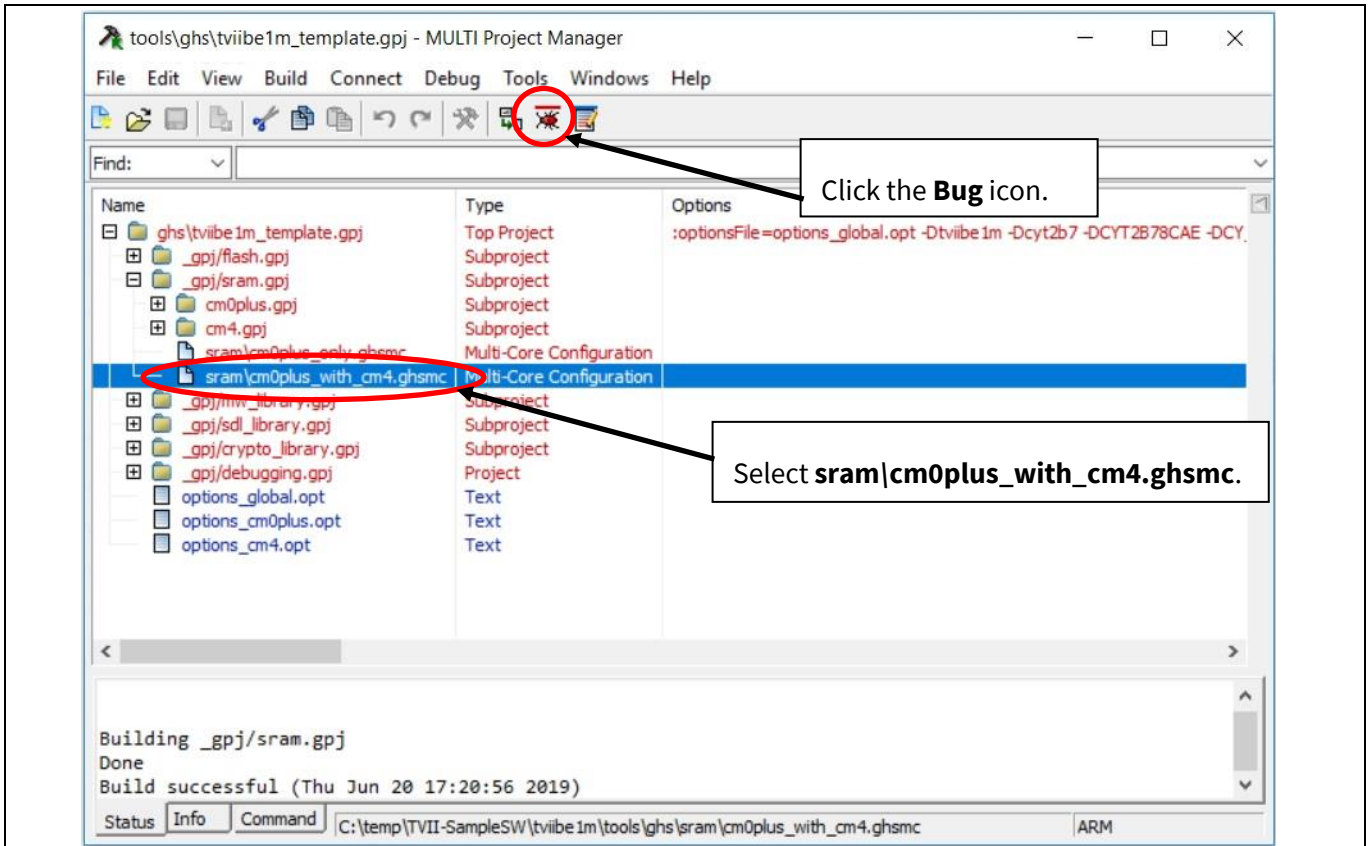

Figure 10 Debug the Project of SDL Project
1. For execution on the RAM, select `sram\cm0plus_with_cm4.gbsmc` and click the **Bug** icon as shown in **Figure 10**. Debugging of the program on the RAM begins.